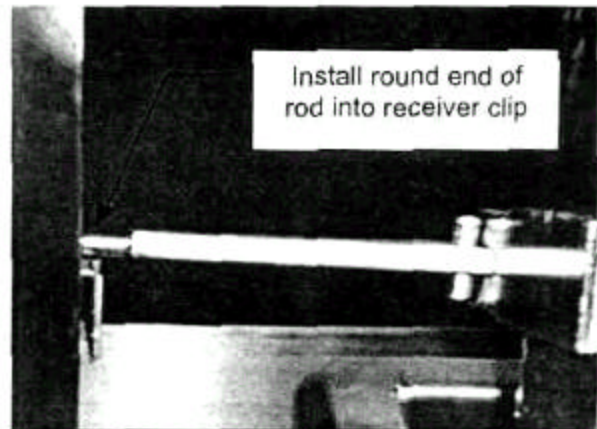

Figure 10B – Basket rod and receiver clip
- Install the round end of the **basket rod** into the **receiver clip** located just inside the **cook chamber** and to your left. (see Figure 10B).